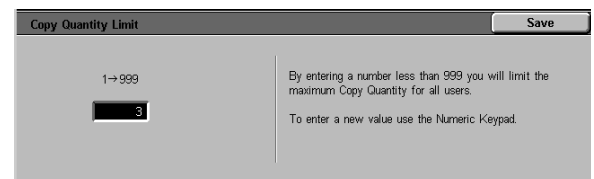

Figure 39: Copy Quantity Limit screen
- On the Copy Quantity Limit screen (Figure 39), use the numeric keypad to enter the maximum number (1—999) of copies/sets allowed.